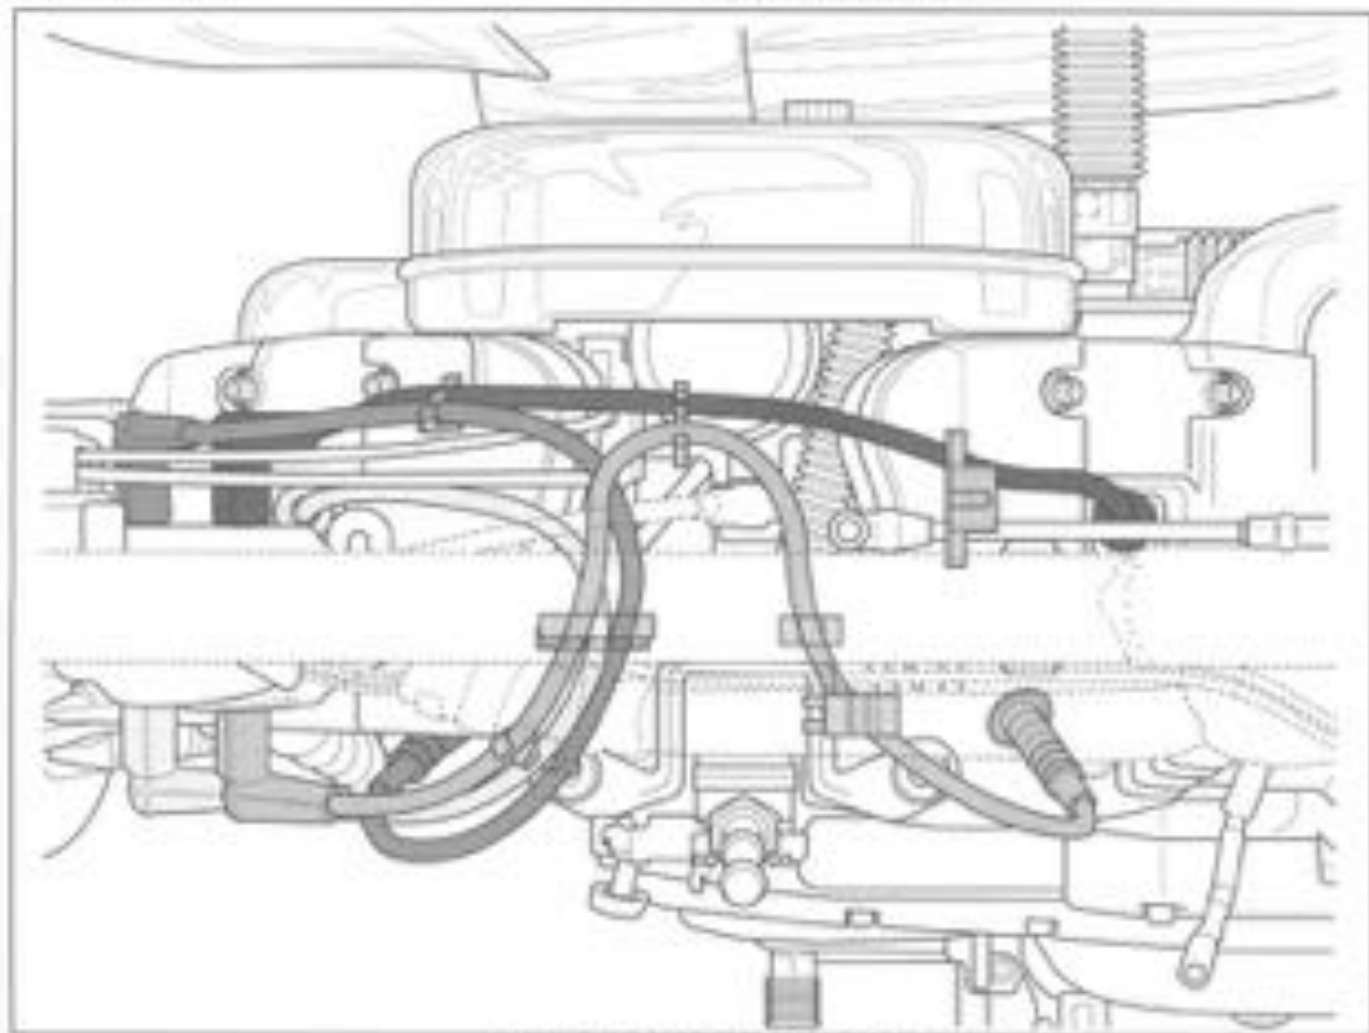

Figure 7-37. 1200G Spark plug cable routing
3. Remove plug wires from coil towers (note location, see Figure 7-37).
4. Disconnect primary wires connector (838).
3. Connect primary wire connector (838).
4. Attach plug wires to coil towers (see Figure 7-37).